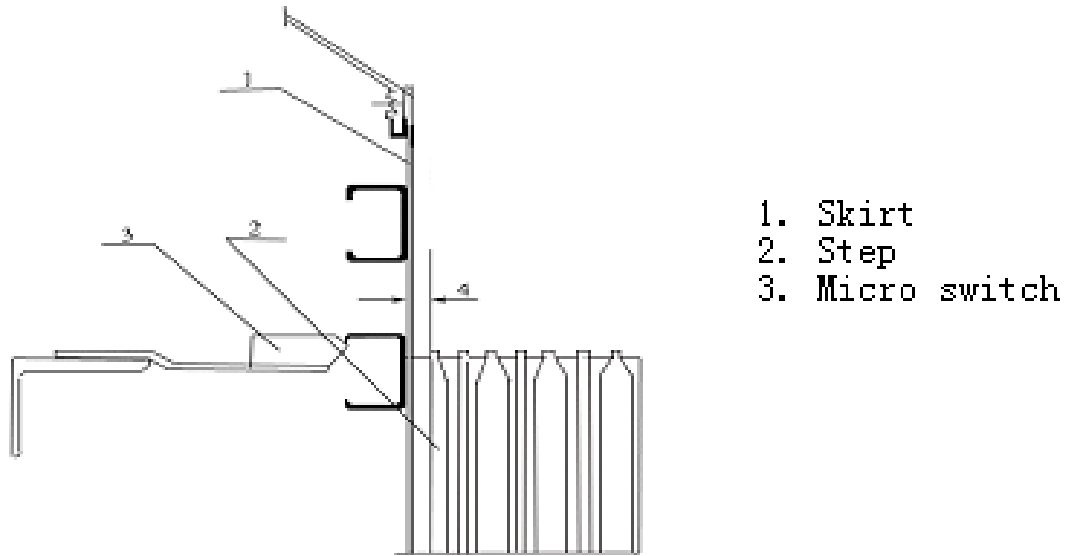

Figure 28
10.7.2 To prevent foreign objects from being caught between the skirt to affect normal escalator operation, in particular to prevent passengers wearing rubber-soled shoes from having their foot clamped between the step and skirt, the skirt safety device has a skirt protection switch. Refer to Figure 28. In case of skirt deformation, micro switch will be actuated to bring the escalator to a stop.